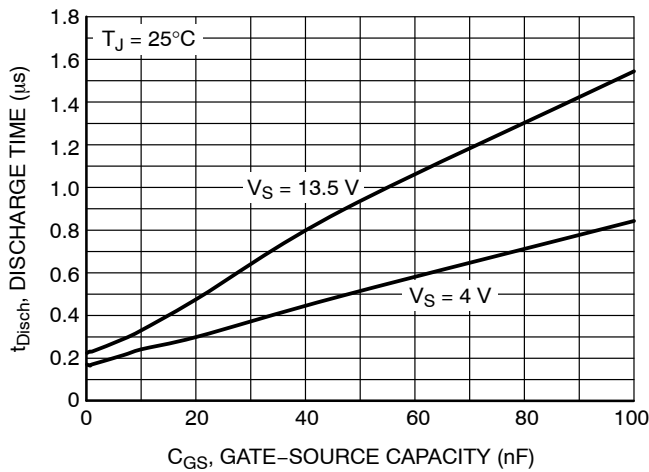

Figure 8. Discharge Time (from $V_{SD} = 0V$ to $V_{GS} = 0V$) vs. Gate-Source Capacitance
- t_{Disch} – discharge time for the given Gate–Source capacity of the external NMOS (see Figure 8)